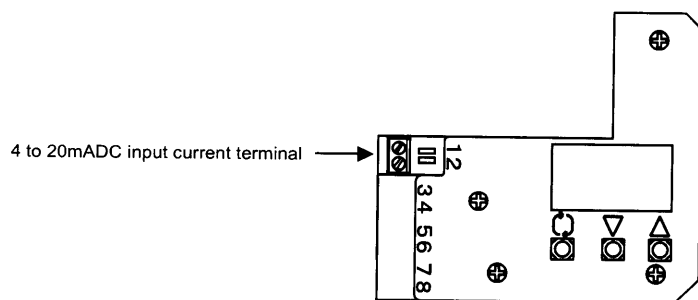

Fig. 8
- (1) Remove the positioner body cover.
- (2) Connect the input current wiring from an adjusting meter (controller) following Fig. 8\*1.